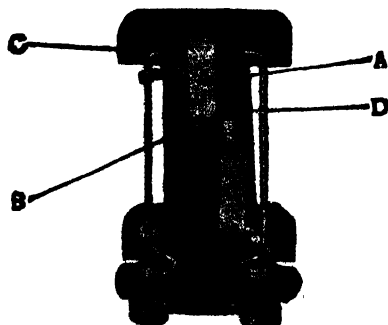

FIG. 5,225-20.—Showing essential parts of a thermal type starter.
**Thermal Starters.**—A typical thermal or resistance-heat-operated starter is shown in fig. 5,225-20. In a starter of this type, when the line switch is closed, the bi-metal operating strip **A** is touching carbon contact **B**, thus allowing the current to preheat the lamp cathodes. However, the heat generated by the current at this point of contact causes the bi-metal **A** to move away from **B**, thus establishing an arc within the lamp. **A** is then kept away from **B** by heat generated in resistor **C**, which is subjected to the same voltage as the lamp.